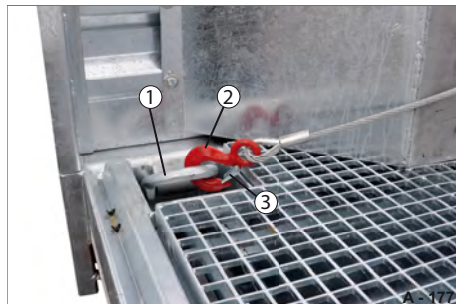

Fig. 224 Releasing the slings
- ▶ Press the retaining tab (Fig. 224/3) in.
- ▶ Detach the sling (Fig. 224/2) from the lashing point (Fig. 224/1).